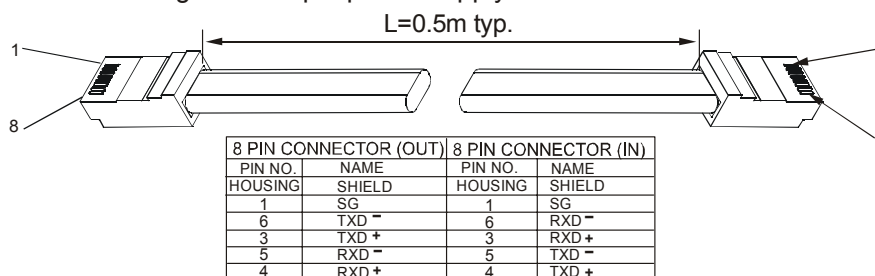

Fig.7-6:Serial link cable with RJ-45 shielded connectors (P/N: GEN/RJ-45)
- Using the Linking cable (refer to Fig. 7-6), connect each unit OUT connector to the next unit IN connector.